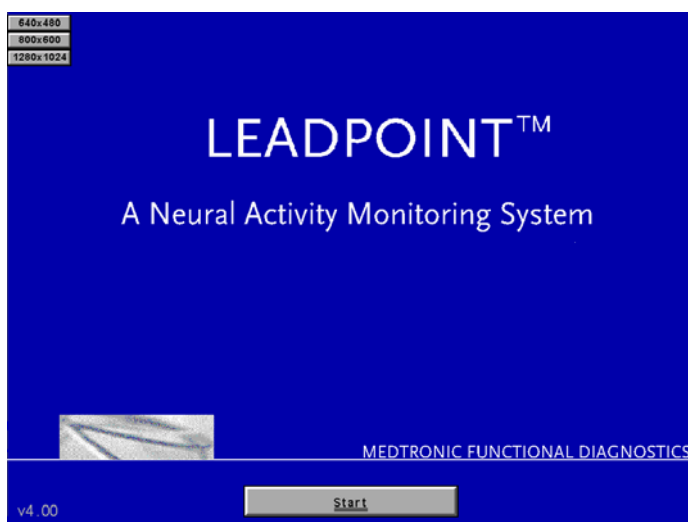

Figure 42 The Start Page of Leadpoint™
- Double-click the Leadpoint icon on your Windows desktop. The program will perform a swift self test, before displaying the Start Page, see Figure 42 below: